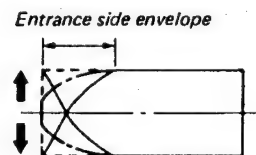

Fig. 1-4-15 Video envelope rising when operation mode is switch from review to play mode
2. Switch the Review mode to the Play mode. When switched to the Play mode, make sure the entrance side envelope comes to an approximate steady state within 3 seconds as shown in Fig. 1-4-15.